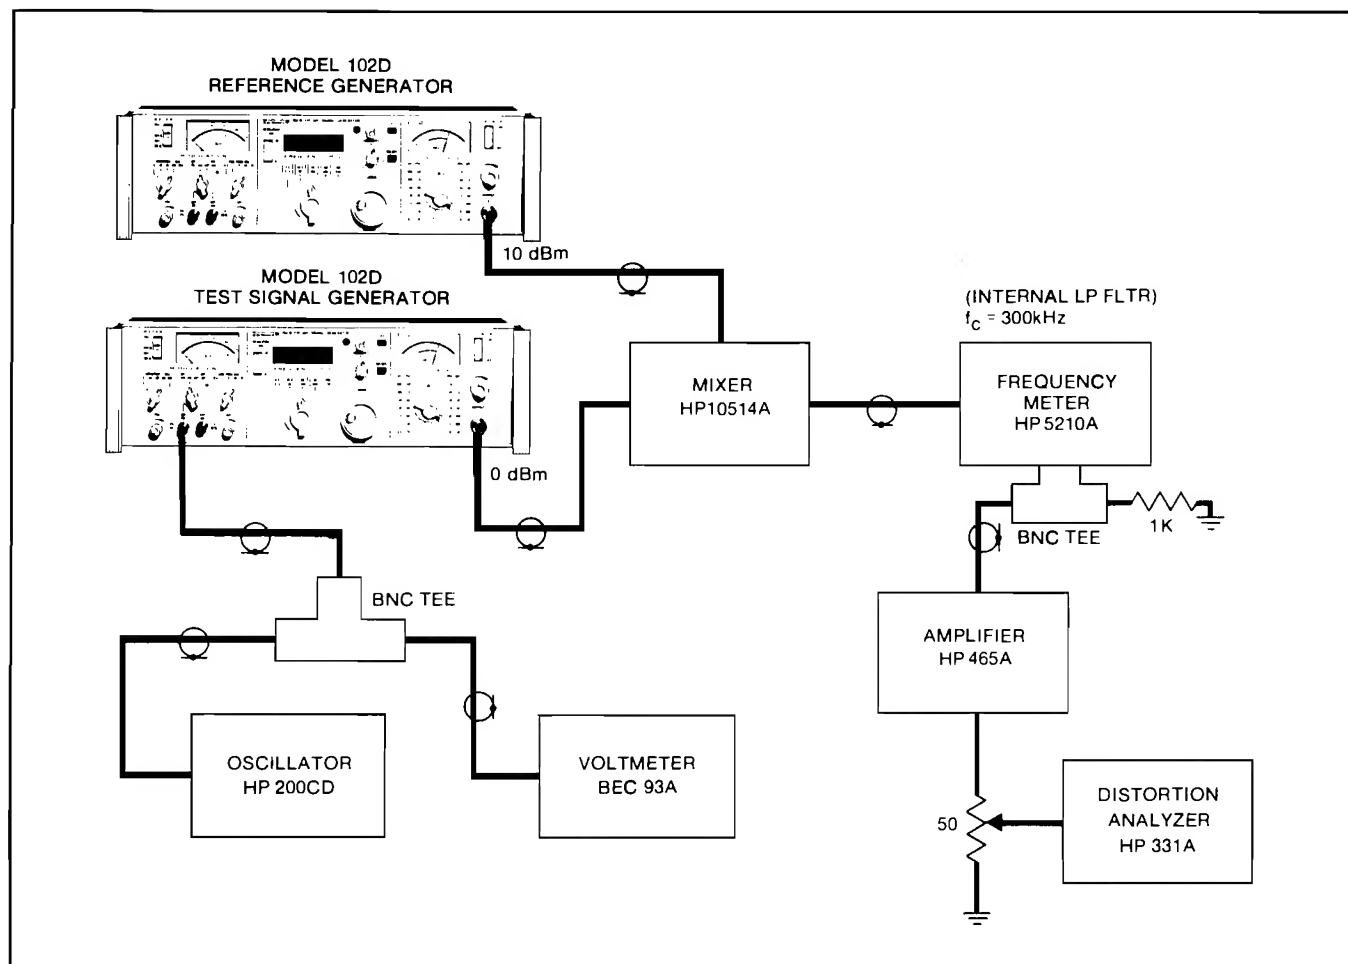

Figure 2-20 FM Bandwidth and Distortion Checks, Test Setup
1. Connect the test Model 102D and test equipment as shown in Figure 2-20.